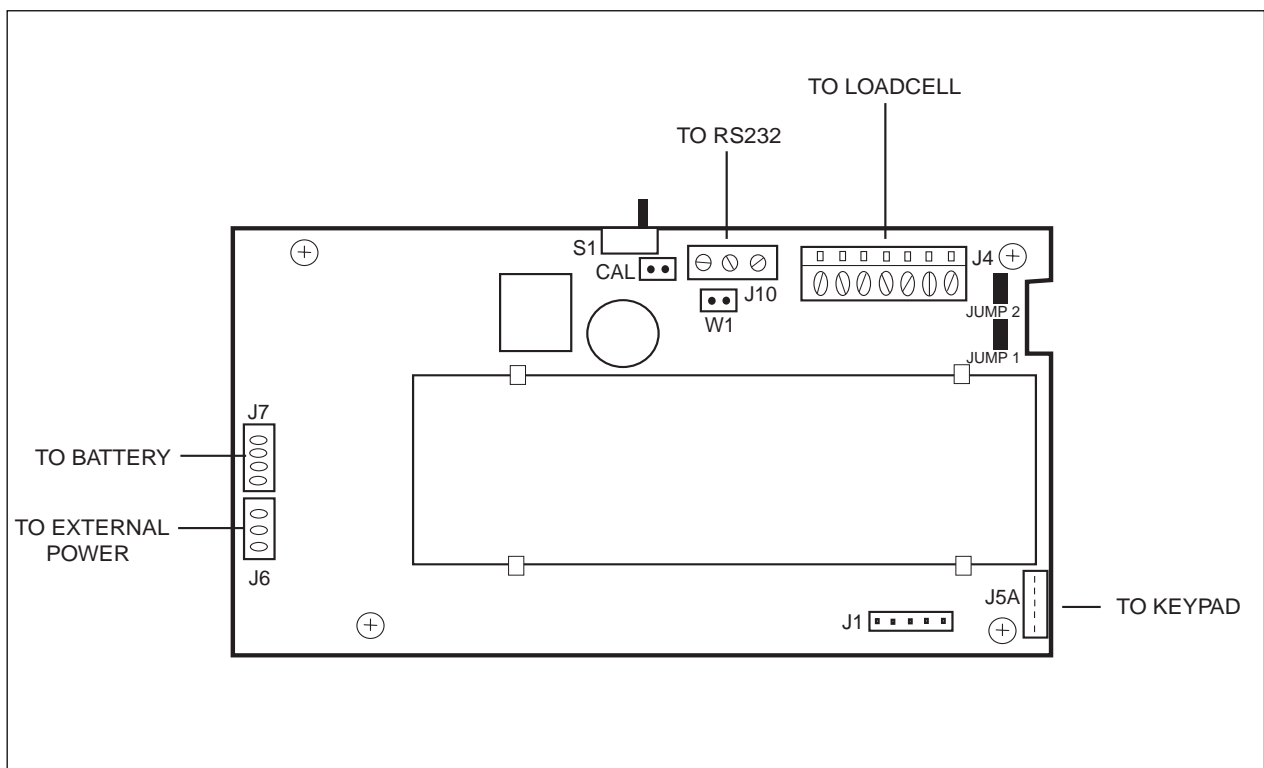

Figure 4-8. Connector Locations.
5. Remove the connector plugs from connectors J6 and J7 from the PC Board which is the battery and external power wires. See Figure 4-8.